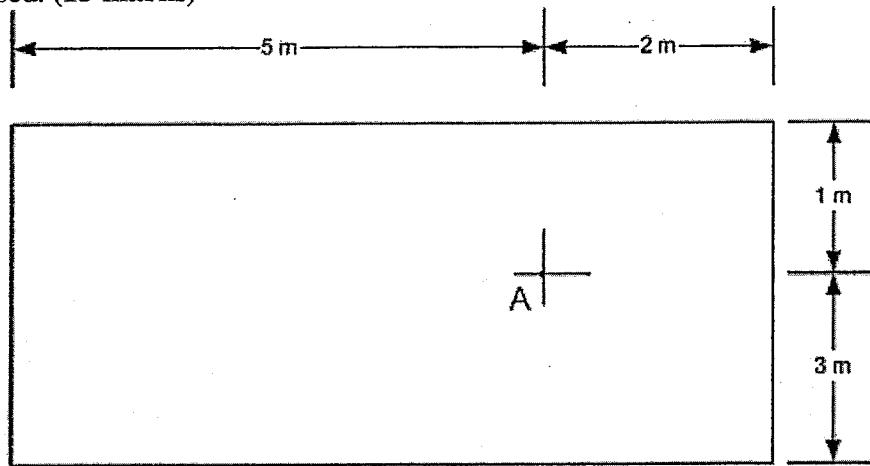

Figure 1
- (b) The footing shown in **Figure 1** is loaded to an intensity of 100 kPa. Determine the increase in vertical stress that occurs at a depth of 3 m below the point A. Use any two methods for determining the increase in vertical stress; one of these methods must use Newmark’s chart. Critique the results obtained from both methods you have used. (15 marks)